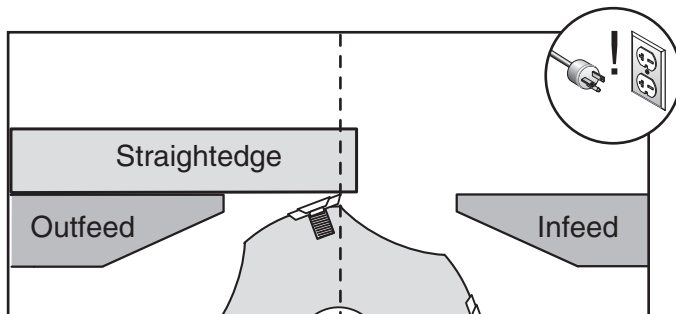

Figure 47. Using a straightedge to align outfeed table height with insert at TDC.
4. When correctly set, the carbide insert will just touch the straightedge when the insert is at its highest point of rotation (see **Figure 47**).